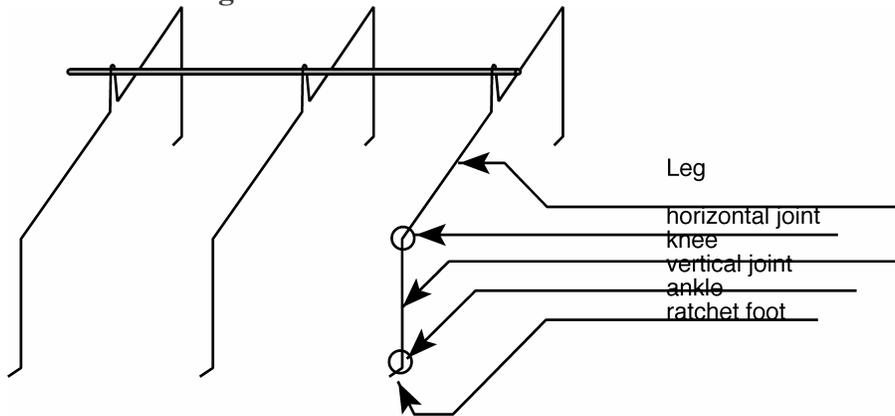

Figure 9: Leg detail
**Insert Figure 9 here. Drawing**